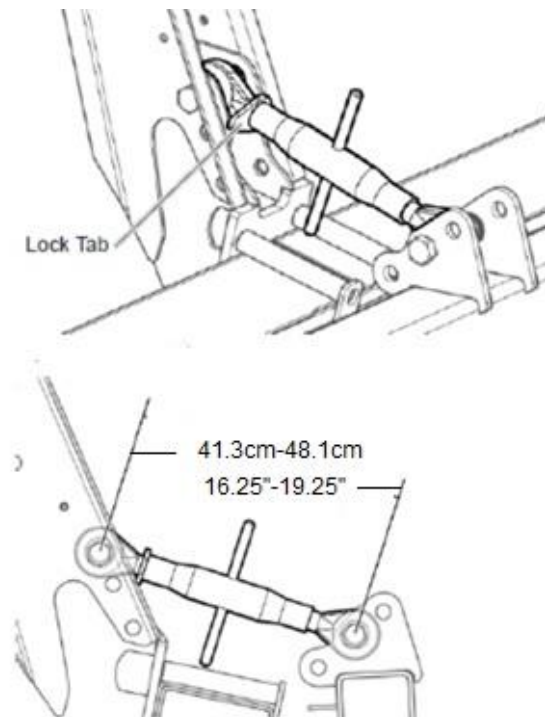

Figure 231
1. Manual tilt. This is a turnbuckle that is installed in the center of the header to control the angle of the cutterbar. Figure 231